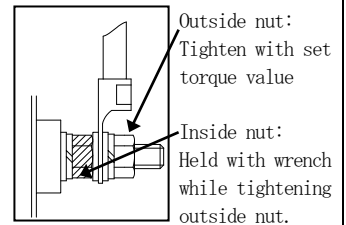

Figure 1: Bolt terminal connection
5. Please do not rotate the inside nut when connecting with the bolt terminal (Figure 1.).